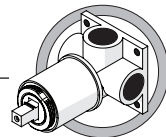

Fig 1
The hole sizing chart above (Fig 1) depicts the ideal profile and dimensions for wall cut out. This is to ensure the mixer Trim Sleeve (3) fits within the void over the mixer body without any interference.